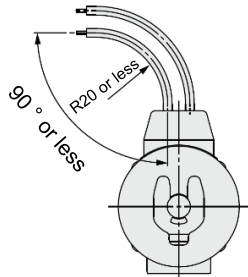

Figure 4. Lead wire bending
- Do not bend the lead wires beyond 90° with a radius of less than 20mm or damage may occur. See figure 4.